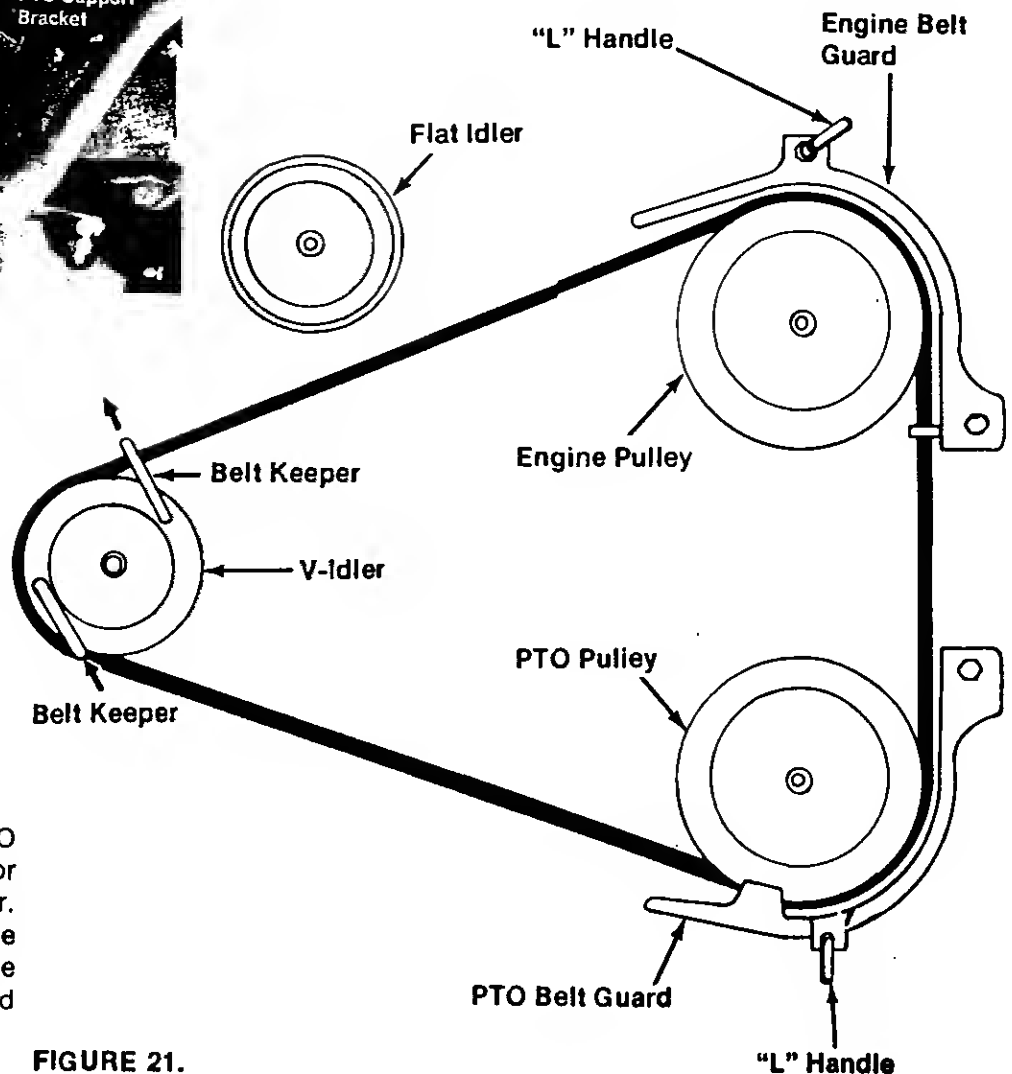

FIGURE 21.
1. Unscrew the "L" handle on the PTO belt guard and pivot the PTO belt guard away from the PTO pulley. See figure 21.
3. Push the belt keepers on the V-idler the direction of the arrows shown in figure 21 and rotate either direction.
8. Place a lockwasher next to the hex nut and insert the hook bolt through the inside of the draft bar. Secure using a second nut. Do not tighten. See figure 21.